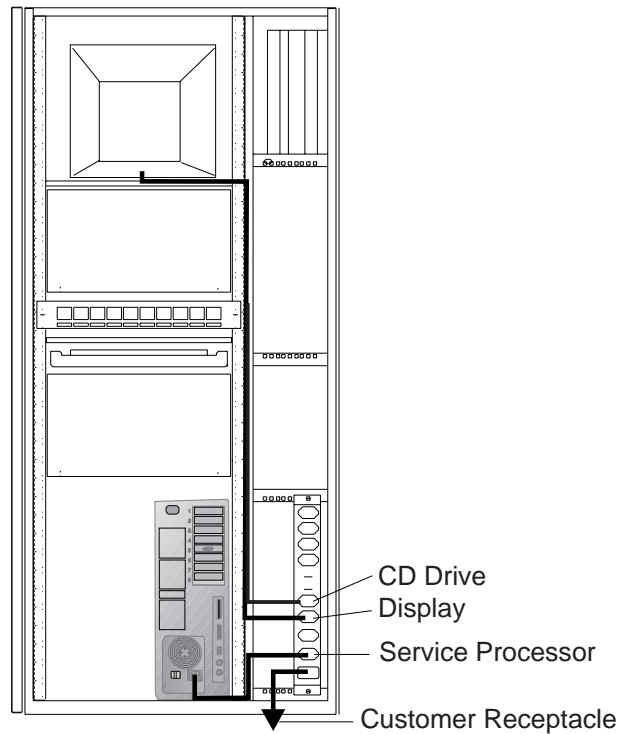

Figure 1-57. Power Cords Connection to an ac Outlet Distribution Box
- The ac outlet distribution box plugs if you **install** the service processor unit in a controller expansion (refer to Figure 1-57 on page 1-51).
20. ____ Route and connect the power cords (PN 58G5783) from the display, the CD drive, and the service processor unit to the ac outlet distribution box as shown in Figure 1-57. Secure these cables using tie clamps along the frame, then go to step 22 on page 1-52.